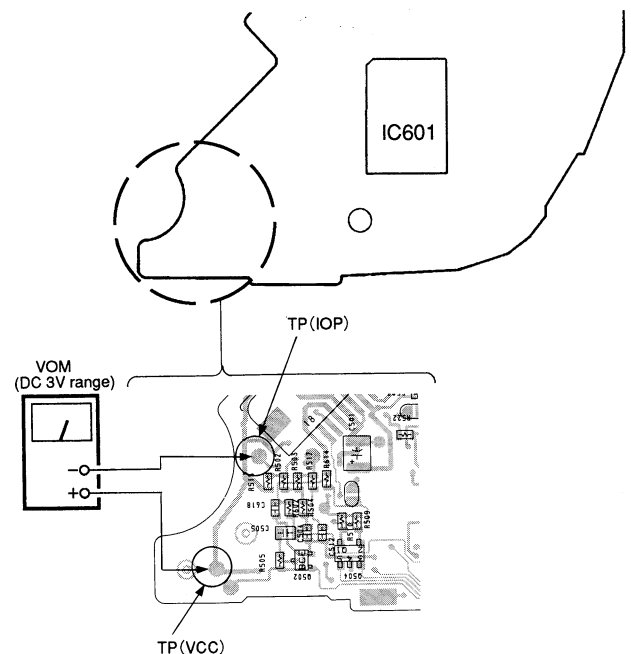

Fig. 2 VOM connecting
3. Connect a VOM as shown in fig.2.